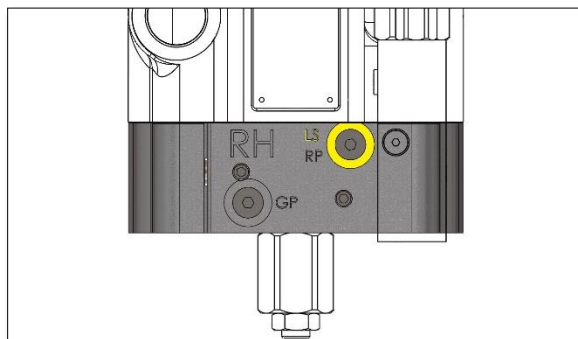

Figure 8 - LS/RP Port Location
- A pressure signal from the circuit, downstream of the restriction and plumbed into the LS/RP Port in **Figure 8**.
An optional bleed orifice can be installed to increase load sense stability. The bleed orifice is installed in OP9, which is under the LS/RP Port, shown in **Figure 8**.
- A remote pressure compensator valve with a flowrate of approximately 0.25 GPM. The inlet port of the remote pressure compensator valve is plumbed to the LS/RP Port on the Valve Plate, as shown in Figure 8.
- A pressure signal from the circuit, downstream of the restriction and plumbed into the LS/RP Port shown in Figure 8.